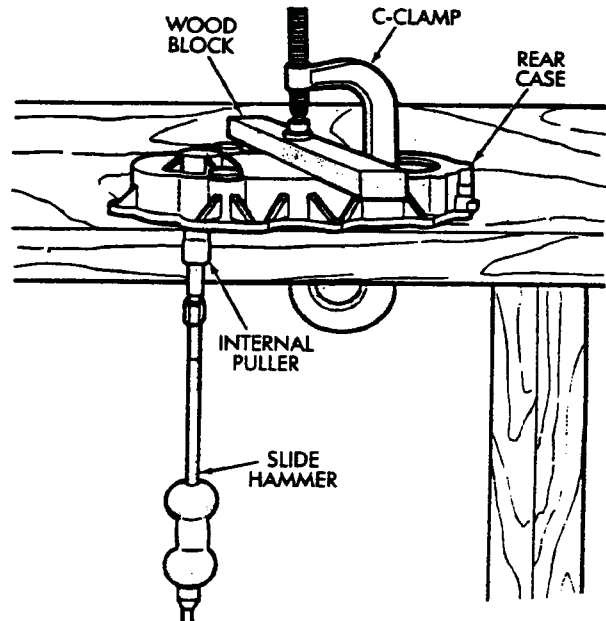

Fig. 4-30 Removing Front Output Shaft Rear Bearing
9. Remove the front output shaft rear bearing from the rear case with an internal puller and slide hammer. Secure the case to a workbench with a C-clamp and wood block (Fig. 4-30).